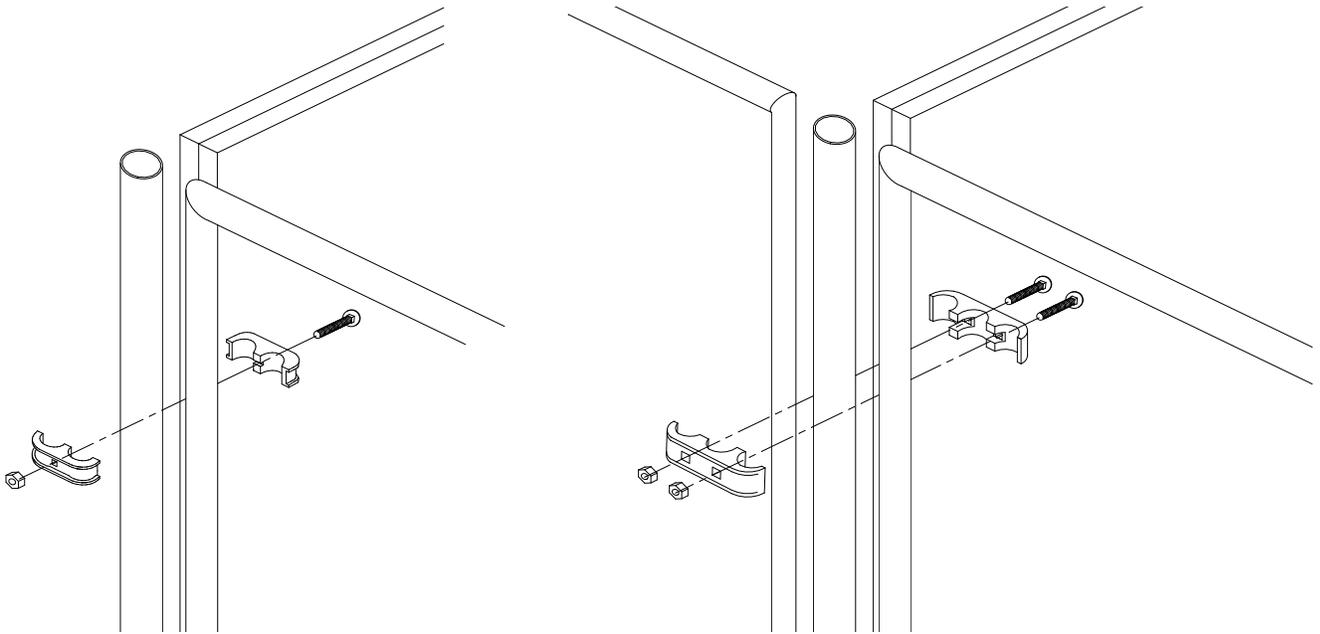
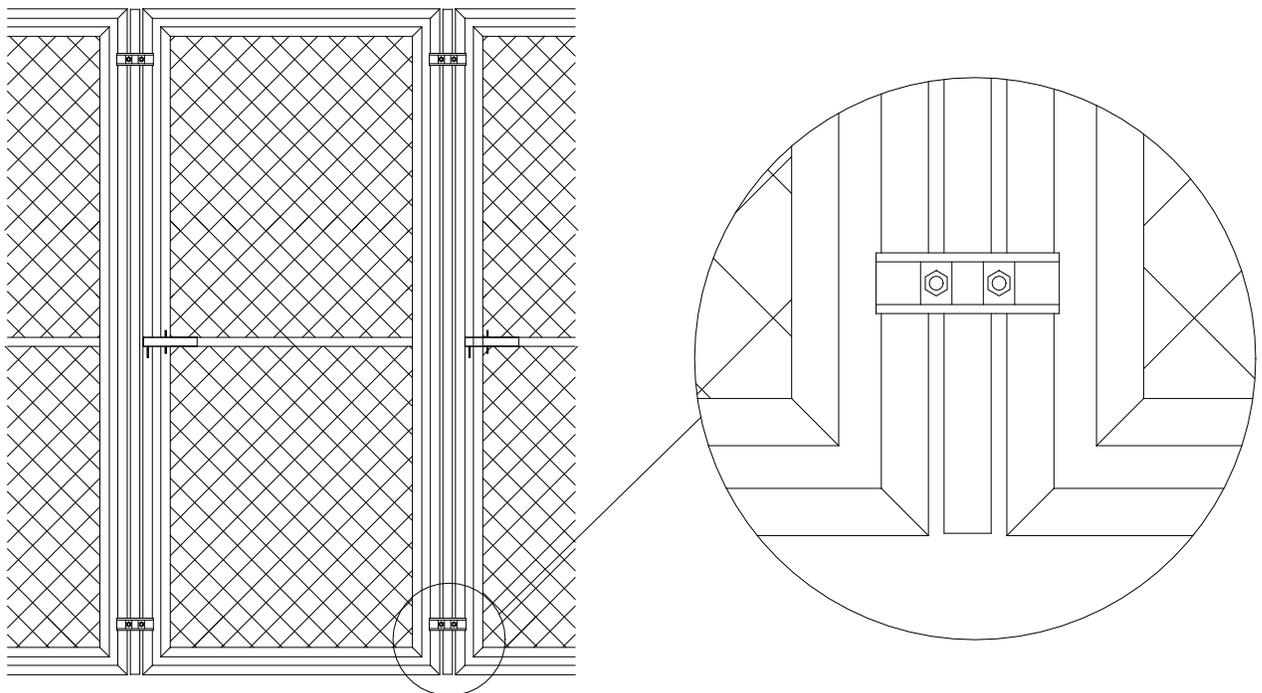

Figure 12
Figure 13
2. Attach the gate/stall front on the front of each run between the filler pipes with two clamps on each side using the 5/16" x 1-1/2" bolts and nuts provided as shown in Figure 12. Note: It takes two halves to make up one clamp. Attach gates / stall fronts to outside division panels using "panel clamps". All other gates/stall fronts will use "triple clamps". **To help insure the safety of the animals the round head of the bolt should be assembled toward the inside of the run.** Note: The triple clamps attach two gates/stall fronts together. Therefore you will have to hang two gates/stall fronts at the same time (see Figure 13).